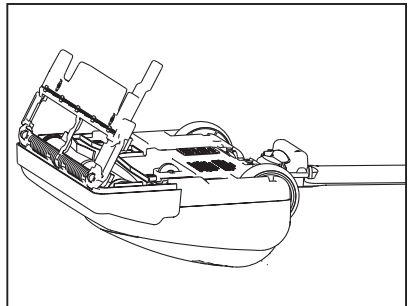

Fig. 2
- Align the front edge of the bottom plate into the notches inside the nozzle (Fig. 2).